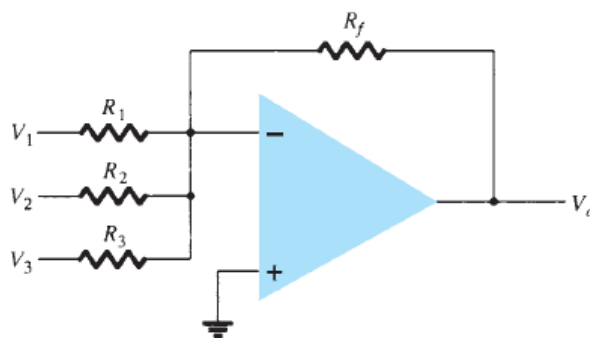

Figure 12.2.1: Summing amplifier
The Summing Amplifier, Fig. 12.2.1, is another type of operational amplifier circuit configuration that is used to combine the voltages present on two or more inputs into a single output voltage.
1. Connect the circuit as shown in Fig. 12.2.1 with certain modifications.